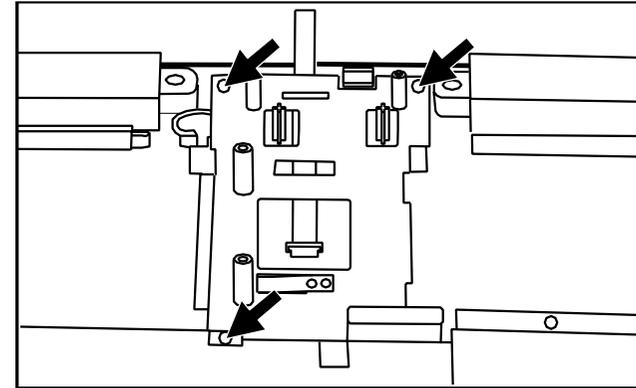

Figure 5-32. Removing Three Screws and Touchpad Panel
2. The touchpad panel is located in between the speakers. To remove the panel, unfasten three screws and remove the metal cover, then you can lift the panel free from the housing. (Refer to Figure 5-32.)
1. Fit the touchpad panel back into place. Replace the metal cover and secure with three screws. (Refer to Figure 5-32 earlier.)